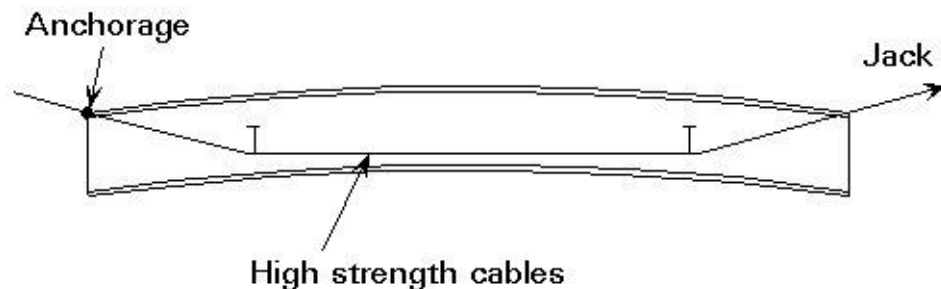

Figure 13 Prestressed beam with cable
**Prestressing of steel beams is achieved with high-strength tendons or cables in two ways:** (1) by placing them below the centre of gravity of the beam and attaching them to the beam at its end, which results in constant prestress; or (2) by draping the tendons along the length of the beam (Figures 13 and 14).